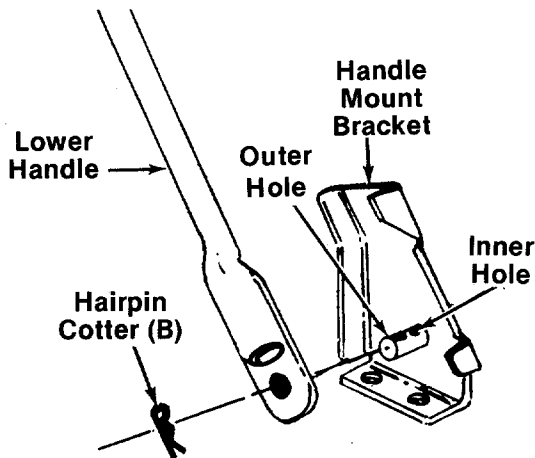

FIGURE 2.
- A (1) Rope Guide Bolt
- B (2) Hairpin Cotters
- C (2) Lock Washers 5/16" I.D.
- D (2) Hex Nuts 5/16-18 Thread
- E (1) Curved Head Carriage Bolt
- F (2) Cable Ties
- G (1) Plastic Plug (Not Shown)
3. Attach the lower handle by placing the bottom holes in the lower handle over the weld pins on the handle mount brackets. Make certain the instruction label on the lower handle can be read from the operating position. Secure with hairpin cotters (B) in inner holes on weld pins. See figure 2.